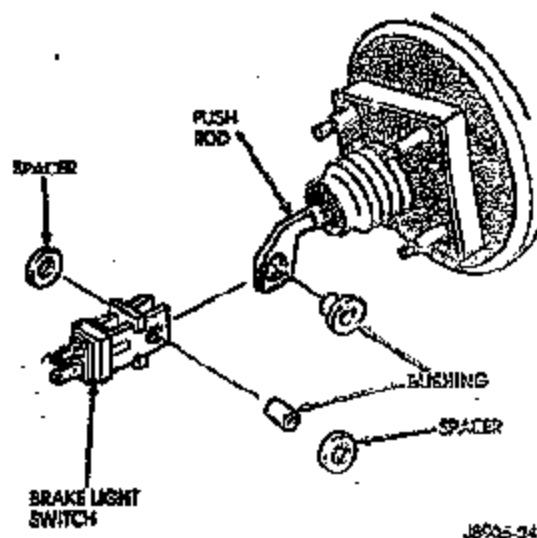

Figure 11
The larger nut must be installed first. Tighten the inner nut to 25 ft-lbs (34 N·m). Tighten the outer locknut to 75 in-lbs (8 N·m) (Figure 11).
14. Connect the high pressure hose to the pump/motor. Tighten the hose fitting to 132 in-lbs (15 N·m) (Figure 11).